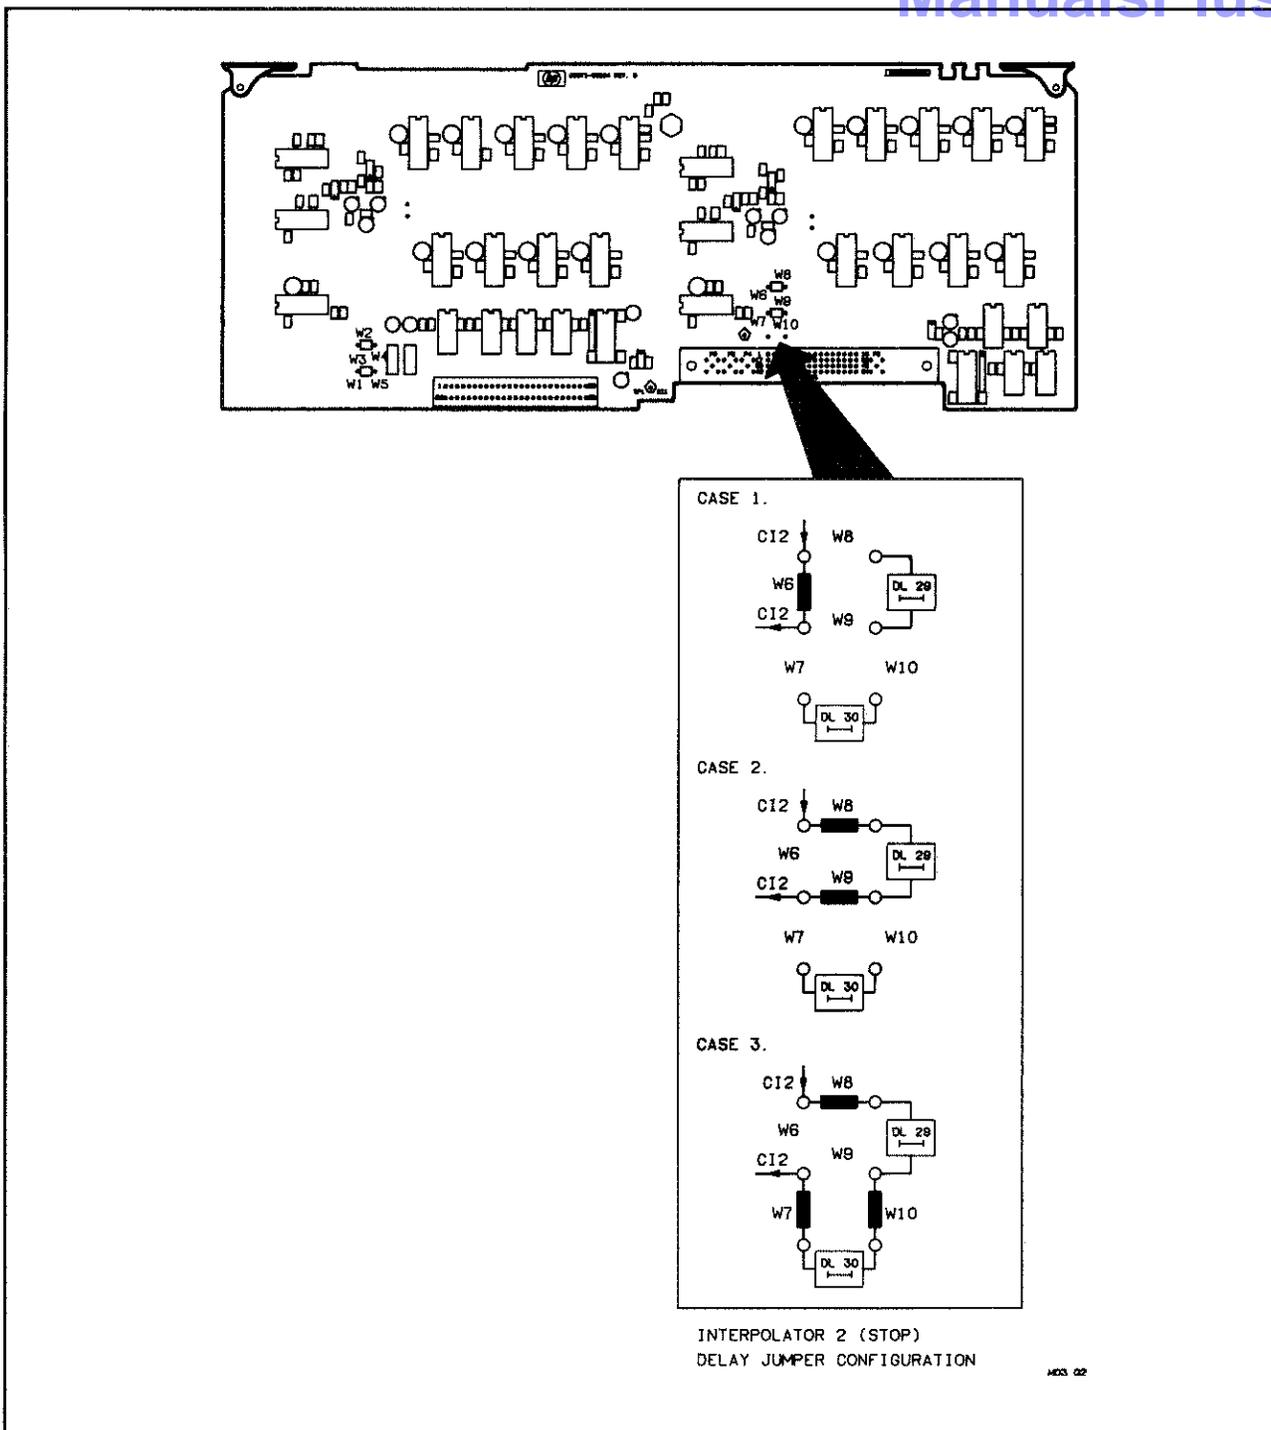

Figure 3-11. Interpolator 2 (Stop) Delay Configurations
- J. Locate Interpolator 2 (Stop) delay jumpers W6-W10 by referring to *Figure 3-11*.
- K. Refer to the actual A4 Interpolator Board and *Figure 3-11* to determine which delay configuration currently exists in the Interpolator 2 (Stop) circuit.